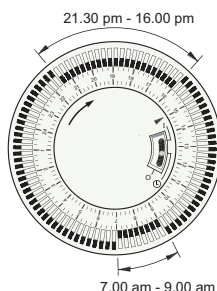
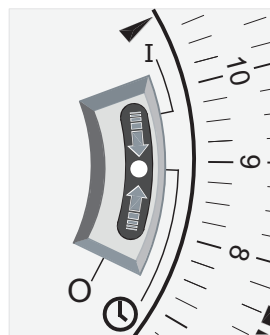

Fig. 8
Fig. 9
1. Using your finger tip or the tip of a pencil, push in as many segments as necessary around the dial, according to the times you don't require heat – see Fig. 7. Each segment pushed in switches the heater OFF for that part of the hour. All other segments will be ON. For example, Fig. 8 shows the timer set to switch the heater ON between 9.00am and 4.00pm and between 9.30pm and 7.00am.
Check that the clock shows the correct time of day. Set the I - ⌚ - ⌚ slide switch to ⌚ (see Fig. 9) - the heater will switch ON and OFF according to the timer settings (see Fig. 8).